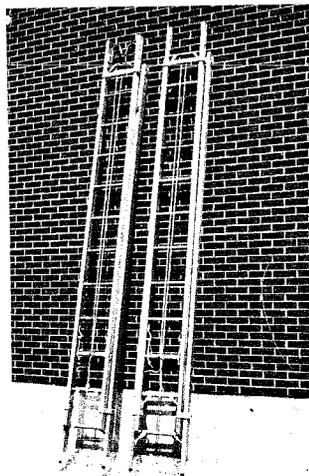

Fig. 1 — Extension Ladders
**2.02** Extension Ladders (Fig. 1) are supplied in 24, 28, 32 and 40 foot sizes. The size of an Extension Ladder is the sum of the lengths of the two sections. All ladders are provided with spurs, unless otherwise specified, to prevent the ladder feet from slipping. 24 and 28 foot ladders are equipped with a Pole Grip unless ordered with Rotatable Ladder Hooks for aerial cable work.